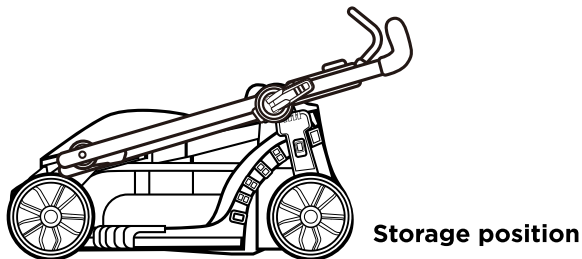

Fig. 16
- g.** The handle on your lawn mower can be completely folded for compact storage. Start by loosening all of the handle knobs of the upper handle and fold down the upper handle. Then lower the lower handle completely (Fig. 16).